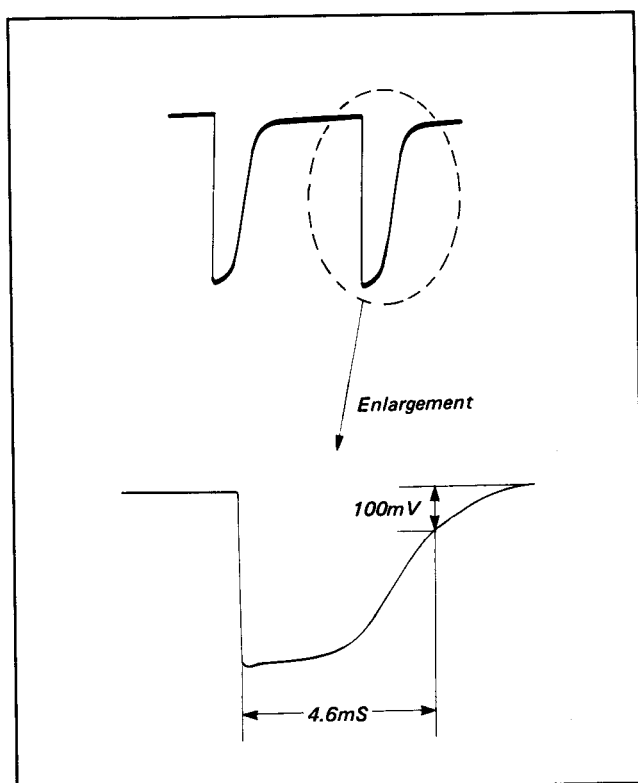

Fig. 2-18
- 2) Turn RV524 so as to align the point where the voltage is 100mV lower than the fully voltage value with the point of $4.6 \pm 0.2\text{mS}$ as shown in Fig. 2-18.